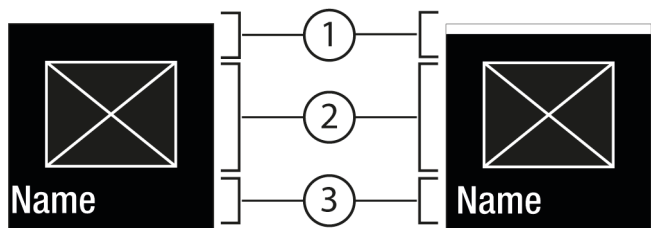
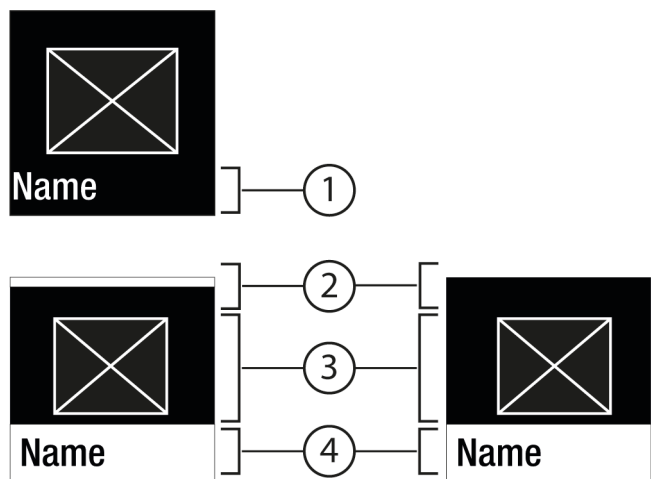

Fig. 6
Fig. 7
- Press Confirm Fig. 5 (2) to go to the submenu Fig. 7 (4).
- Set new level: Press Confirm Fig. 5 (2) to select a deselected value Fig. 6 (1).
- Back to menu: Press Confirm Fig. 5 (2) to select the selected value Fig. 6 (2).
- ▷ Status: on Fig. 6 (1) appears briefly in the submenu Fig. 7 (4).